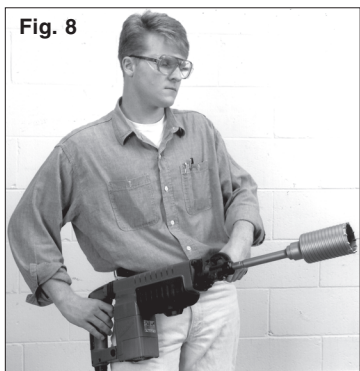

Fig. 8
6. To change the core bit, hold the tool upwards, pointing it away from your body as shown, and run it briefly in forward to loosen the core bit from the adapter (Fig. 8).